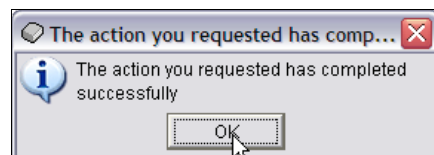

Figure 11-24 Disks added successfully to disk pool
14. When complete, click **OK** in the action window shown in Figure 11-24.